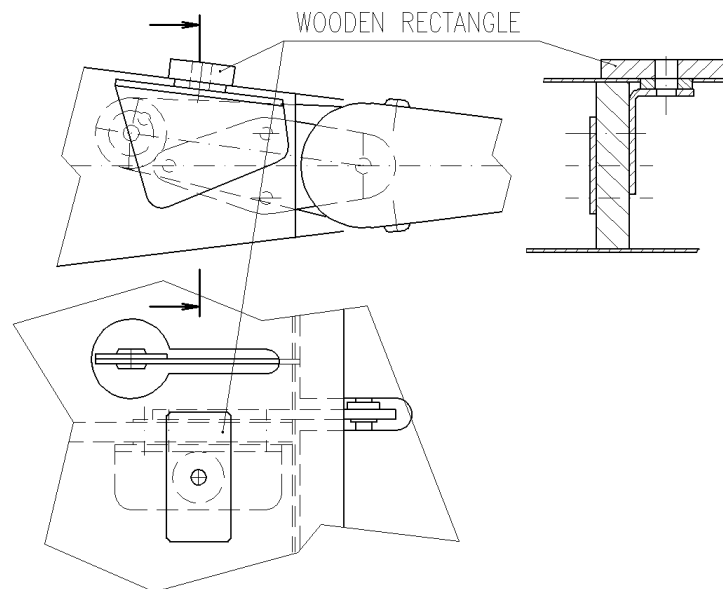

Fig. 4
5. Now glue on the wooden rectangle th. 6 mm (see fig. 4) and when properly hardened, adjust its height to the dimension measured at step 1 (fig. 5).